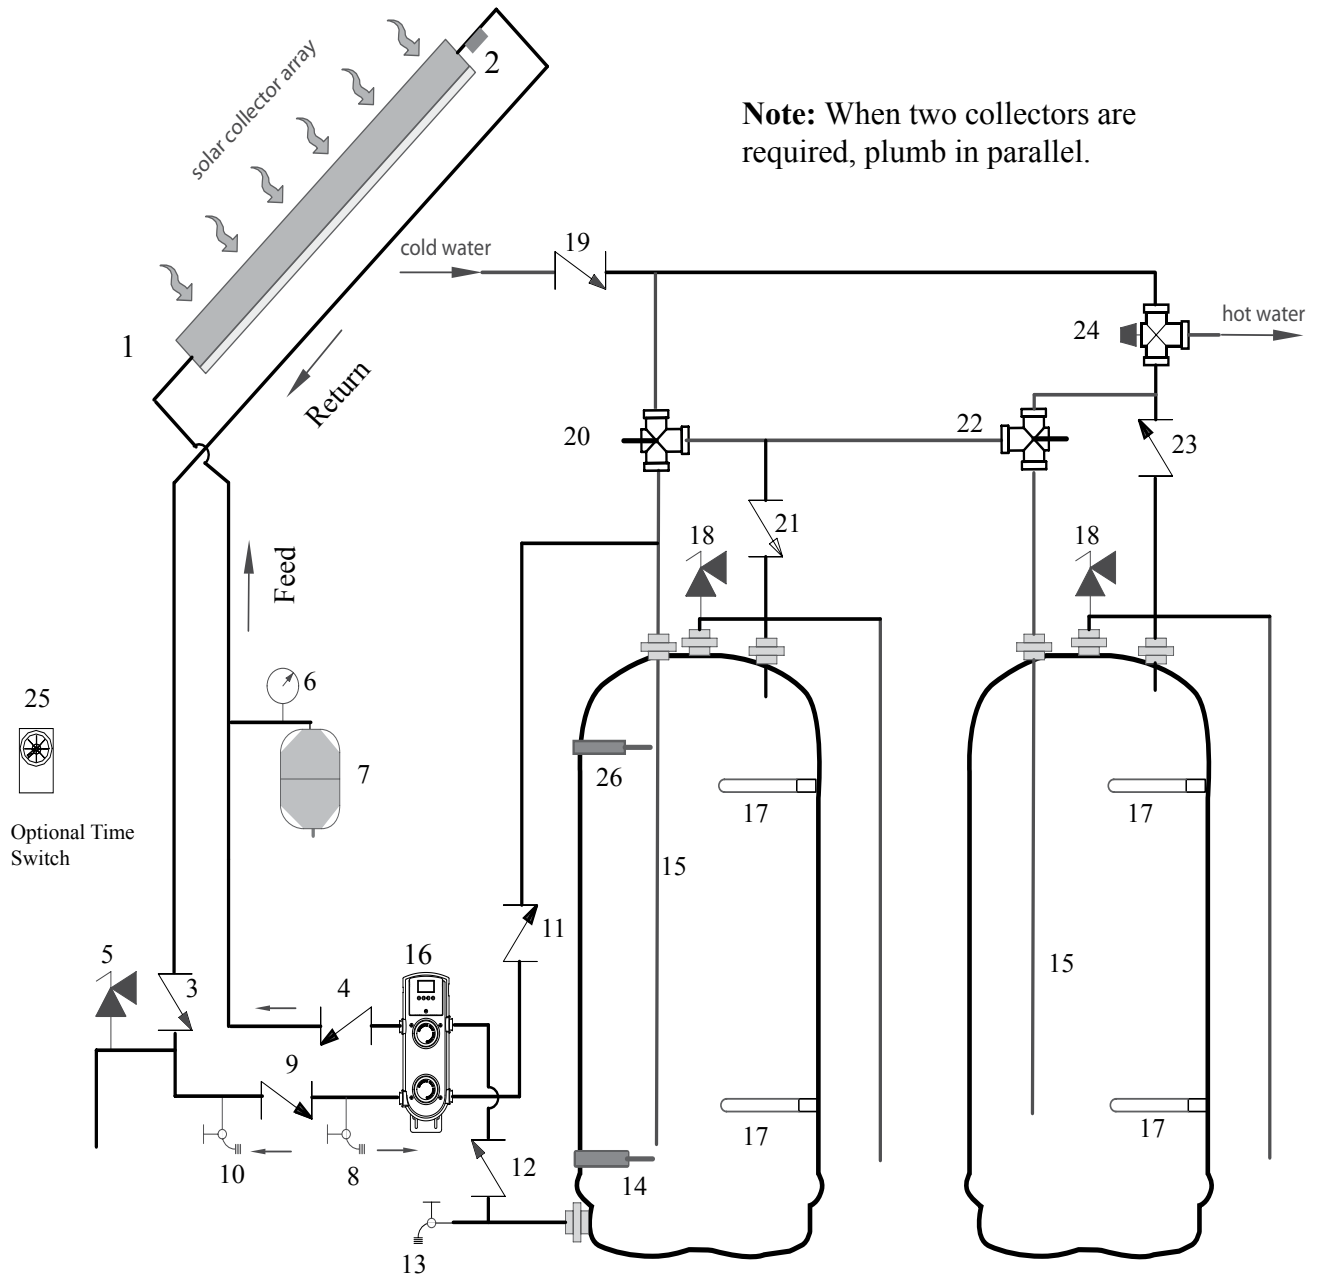

Figure 17
- If the weather is poor and the auxiliary heating element will not fire, the bright red reset button on the thermostat may have to be depressed to be reset. Single tank systems have one heating element and thermostat. Double tank systems with conventional electric water heaters have two heating elements and thermostats (see Figure 17, No. 17).